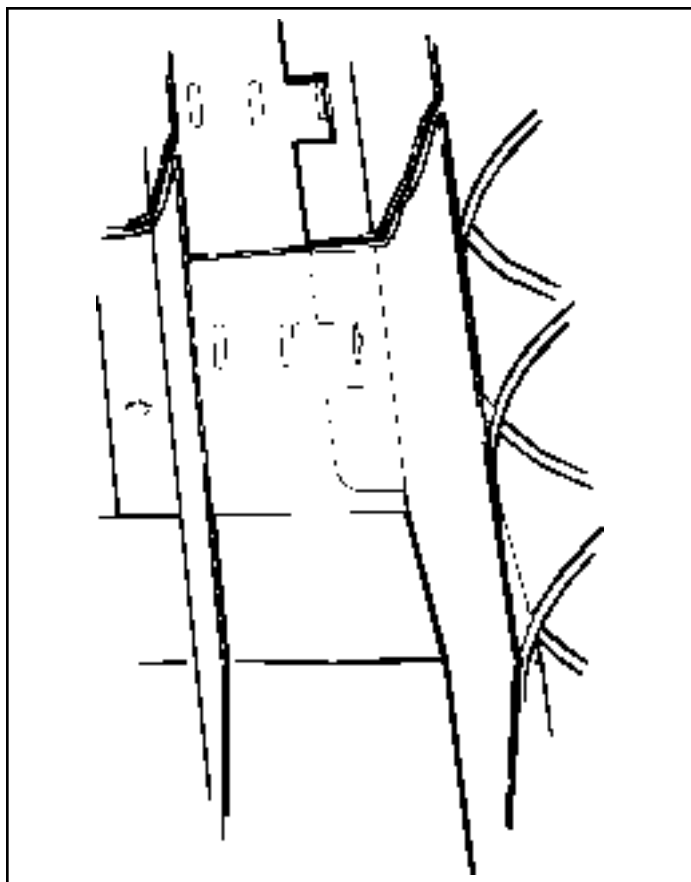

Figure 4. Alignment of moveable product spacers.
5. **Product Spacers, 5-Selection Shelf.** A product spacer is used to reduce the width of the product area and should be used on any 5-selection snack shelf where the product width is 4-1/2" or less. Spacers should fit within 1/8" of the product but should not fit tight against the product. There are three positions in each snack space where these spacers can be placed. To install the spacer, align the lock ears (on the lower edge of the spacer) with one of the three sets of slots (one front and one rear). (Figure 4.) Push the spacer to the rear to allow the ears to enter the slots, then allow the spacer to move forward. Be sure the ears are in the same set of slots,
front and rear. (Figure 4.) Continue loading all spirals. Adjust with spacers where needed in the top shelf. Return the top shelf to the vend position and following this procedure, load the remainder of the large spiral shelves. The shelf divider separating the right (lock side) column from the next column is movable to allow vending of products wider than 5-1/2" in the second column. If this is used, the right column must be used to vend narrower products.